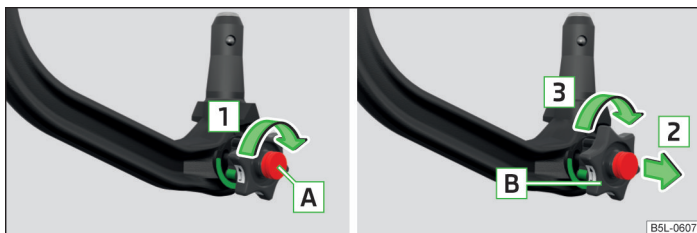

Fig. 127 Setting the ready position
- Turn the key **A** in direction of the arrow **1** to the stop » Fig. 127.